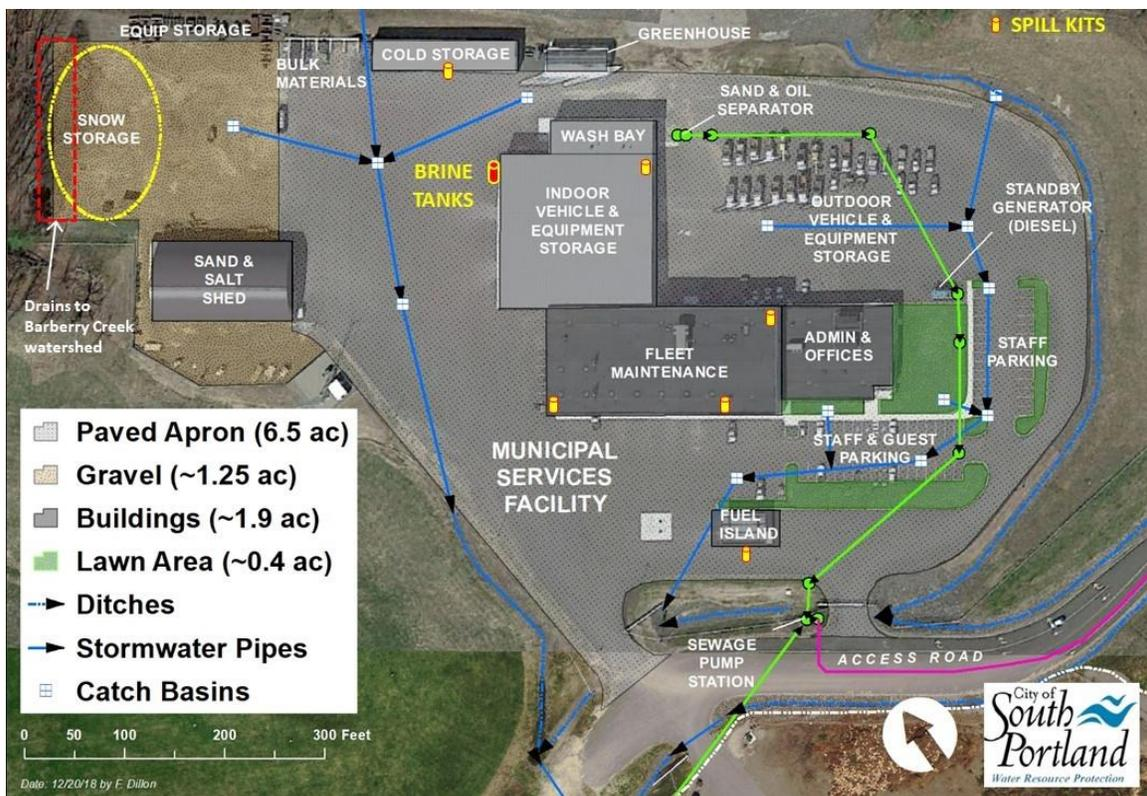

Figure 3: Municipal Services Facility (green and purple lines indicate sewer system)
Many vehicles and equipment reside in a 22,800 s.f. indoor vehicle and equipment storage building while most remaining vehicles (primarily trucks) are stored outside. A number of other buildings were constructed to support the Municipal Services Facility's operations, including a sand & salt shed, administration building, fleet maintenance building, vehicle wash bay, cold storage building and green house (Figure 3 and Table 1).
There are two primary locations designated for outdoor equipment storage (Figure 3):
Virtually all other materials and equipment are stored in buildings (Figure 3):
The greatest potential risks for stormwater contamination are associated with fueling, tracking from the sand & salt shed, loading brine solution from the two bulk storage tanks and/or the bulk material storage area (Figure 3), salt spillage or fluid leaks from trucks and equipment stored outdoors and vehicles parked in the staff and visitor parking area. The Pollution Prevention/Good Housekeeping practices described in Section 4 will minimize or prevent stormwater contamination risks.
- Spills will be immediately cleaned up using “dry methods” – i.e., absorbent materials placed throughout the complex (see spill kit locations in Figure 3 and Section 4.5).
- Provide spill response equipment at all potential spill areas (see Spill Kit locations in Figure 3).